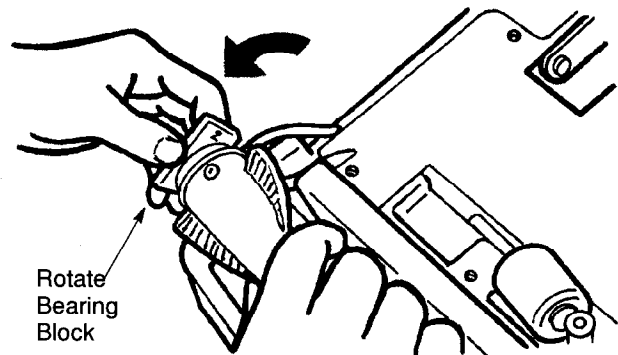

FIG. 8
- d. Rotate both bearing blocks 180° and reinstall brush (Figure 8).